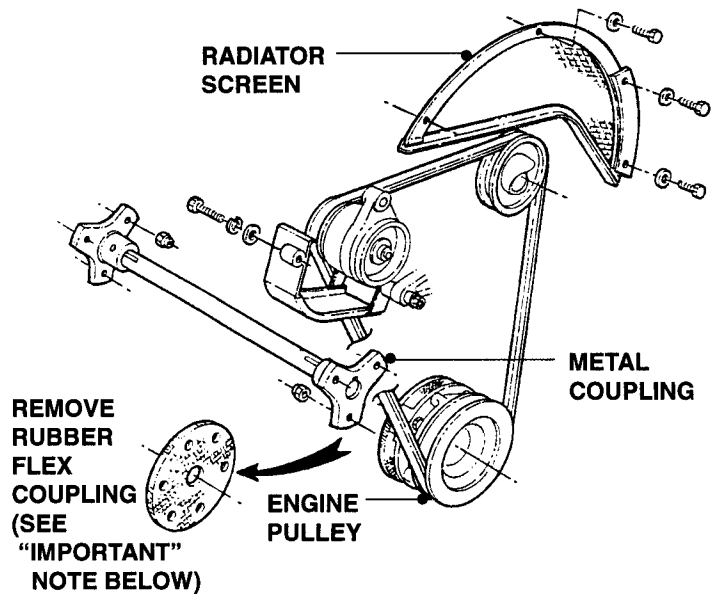

FIGURE 5.12
3. Remove the Nuts and Bolts that secure the Metal Couplings to the Rubber Flex Coupling. Remove Rubber Flex Coupling to allow space to remove and install Belt. See Figure 5.12.